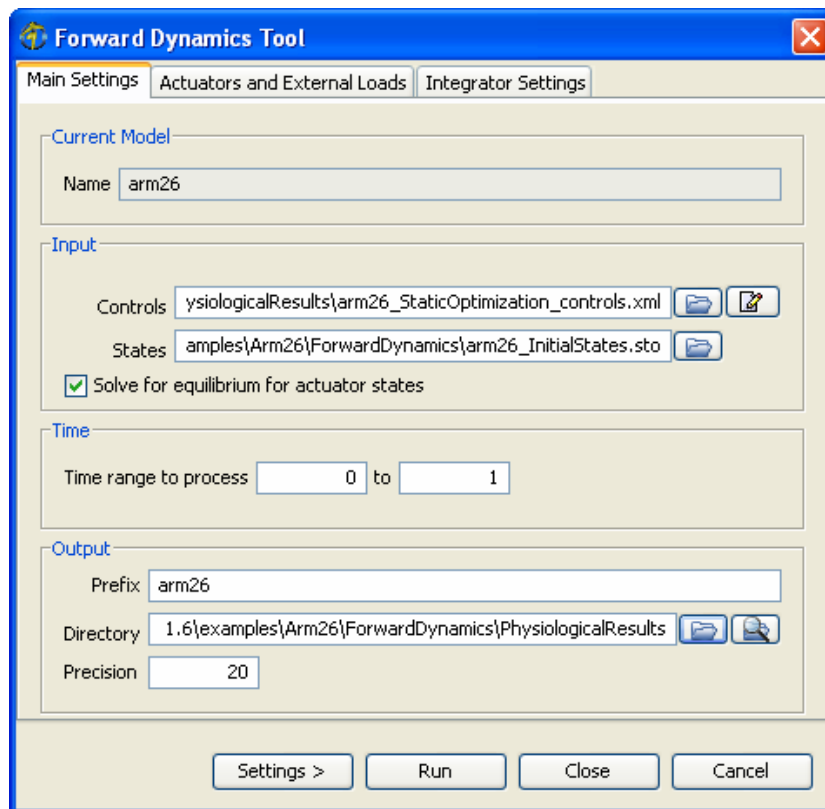

Figure 7-1: Dialog for the Forward Dynamics Tool. The main settings pane.
1. **Open Forward Dynamics Tool.** To open the tool (Figure 7-1), select **Forward Dynamics...** from the **Tools** menu.
1. **Open Computed Muscle Control Tool.** To open the tool (Figure 7-1), select **Compute Muscle Control...** from the **Tools** menu.